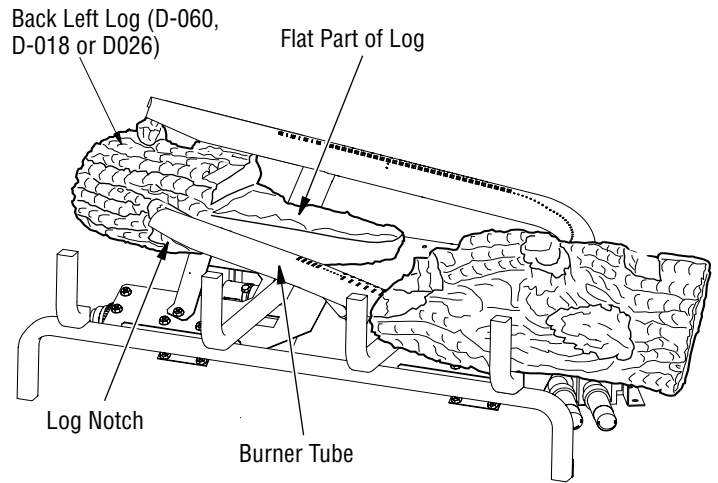
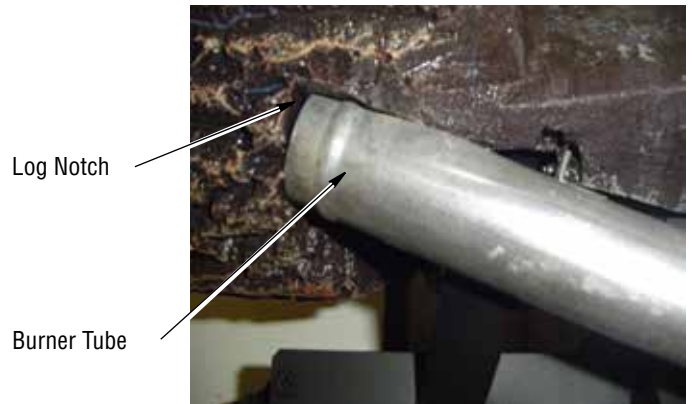

Figure 17 - Installing Back Left Log
Figure 17A - Installing Back Left Log
- Find the back left log (LMF24GTA/B or LMF24MOA/B models: D-060, LMF30GTA/B or LMF30MOA/B models: D-018, LMF36GTA/B or LMF36MOA/B models: D-026). See **Figures 17, 17A, and 17B**. **Figure 17A** shows how the log must fit against the end of the burner. **Figure 17B** shows how the notch in log fits against the vertical portion of the burner tube. Place this log on the base assembly by inserting it from the left side as shown in **Figure 17**. You will need to twist the log slightly to get it to fit against the burners properly. It will rest even with the back edge of the pan.